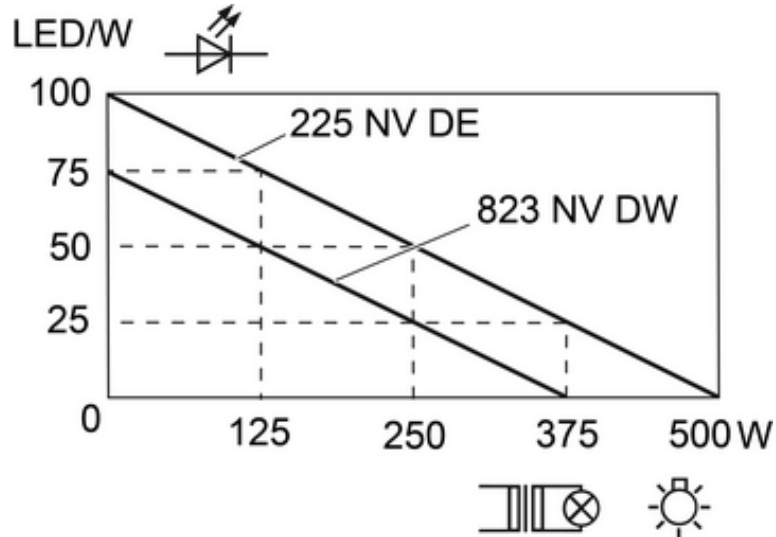

Figure 4: Load curve of mixed loads
- i** Mixed-load operation of LED lamps or compact fluorescent lamps with other permissible loads possible. Note load curve (figure 4).